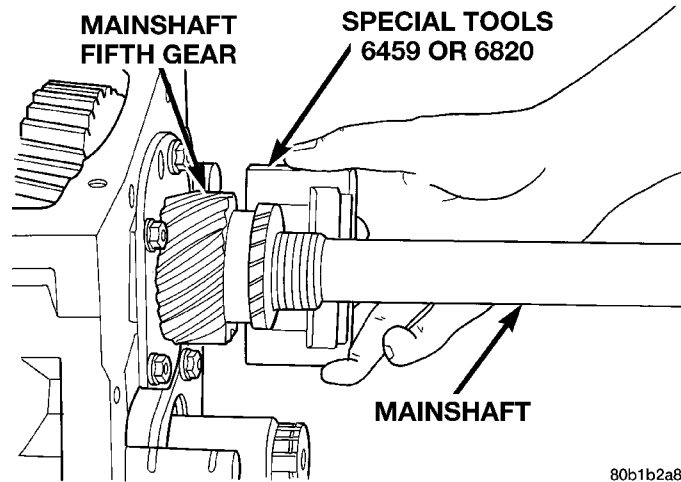

FIGURE 10 - Installing First Jaw On Mainshaft Fifth Gear
1. Position first half of puller jaw Special Tool 6820 onto the fifth gear (Figure 10).